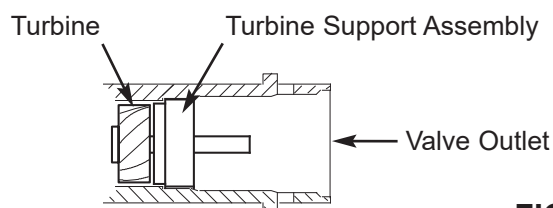

FIG. 7
- Be sure the turbine and support are in place in the valve outlet, as shown in Figure 7.